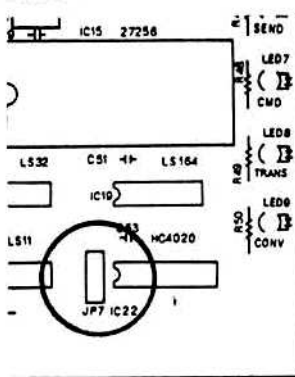
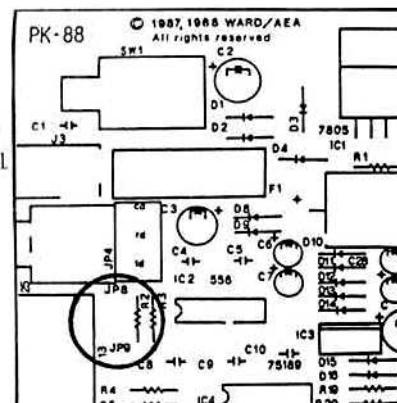

Figure 1
Figure 2
1. To allow the PK-88 to work with this program in the split screen mode, a simple modification must be done to the circuit board. To do this, simply short one end of R5 to one end of R7. Use the end of the resistors that are closest to the outside edge of the board (see Figure 1, page 6 of this section).
1. To allow the PK-88 to work with this program in the split screen mode, a simple modification must be done to the circuit board. To do this, simply short one end of R5 to one end of R7. Use the end of the resistors that are closest to the outside edge of the board (see Figure 1 below).
The modification is done in three steps. First, move JP-7 to position B. This jumper is located in the front left corner of the circuit board, between IC21 and IC22 (Figure 1, below). Position B means that the small plug is on the center pin and the pin closest to the outside edge of the PCB. Secondly, solderjump the two halves of JP-8 together and do the same for JP-9. These are actually lands on the circuit board, and they are located near the serial port (Figure 2, below). Finally, touch a well-grounded metal object in your shack to discharge any static you may have built up in your fingers, and, using a small flatbladed screwdriver, gingerly remove the firmware chip (IC15) from its socket, being careful not to pry the socket from the board itself. once this is done, simply install the NET/ROM chip into the empty socket, making sure the notch on the EPROM points towards the rear of the PK-88.
Your PK-88 has a lithium battery installed onto the printed circuit board just behind the heatsink, at the BT-1 location (see Figure 1, below). This battery replaces the two AA batteries used in earlier PK-88's. To electrically remove the battery from the PK-88 circuitry, leave JP-6 disconnected. If you wish to install the battery into the circuit, place the jumper over both pins of JP-6. Your PK-88 has been shipped to you with the battery disconnected from the circuit. In general, if you are using AEA's IBM program PC-Pakratt with FAX, you will want to leave the battery out of the circuit. With COM-Pakratt, MacRATT, or any other terminal program, you will want to install the jumper over both pins of JP-6.